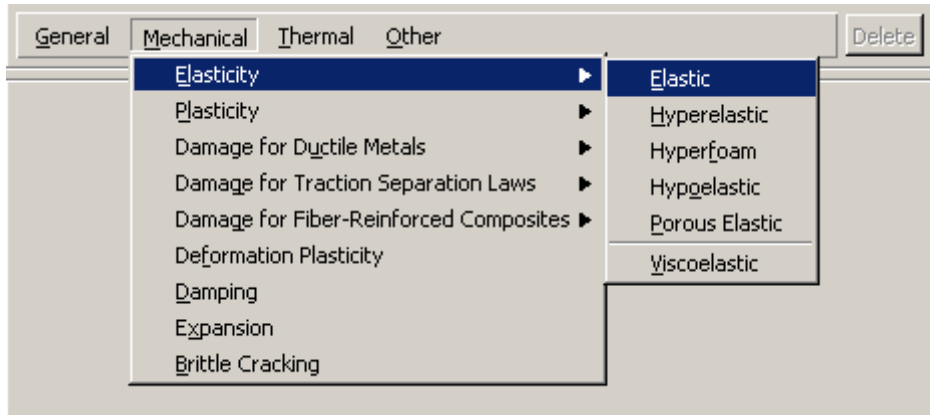

Figure W1-8 Pull-down menu.
Abaqus/CAE displays an isometric view of the new part, as shown in Figure W1-8.
3. From the material editor's menu bar, select **Mechanical**→**Elasticity**→**Elastic**, as shown in Figure W1-8.